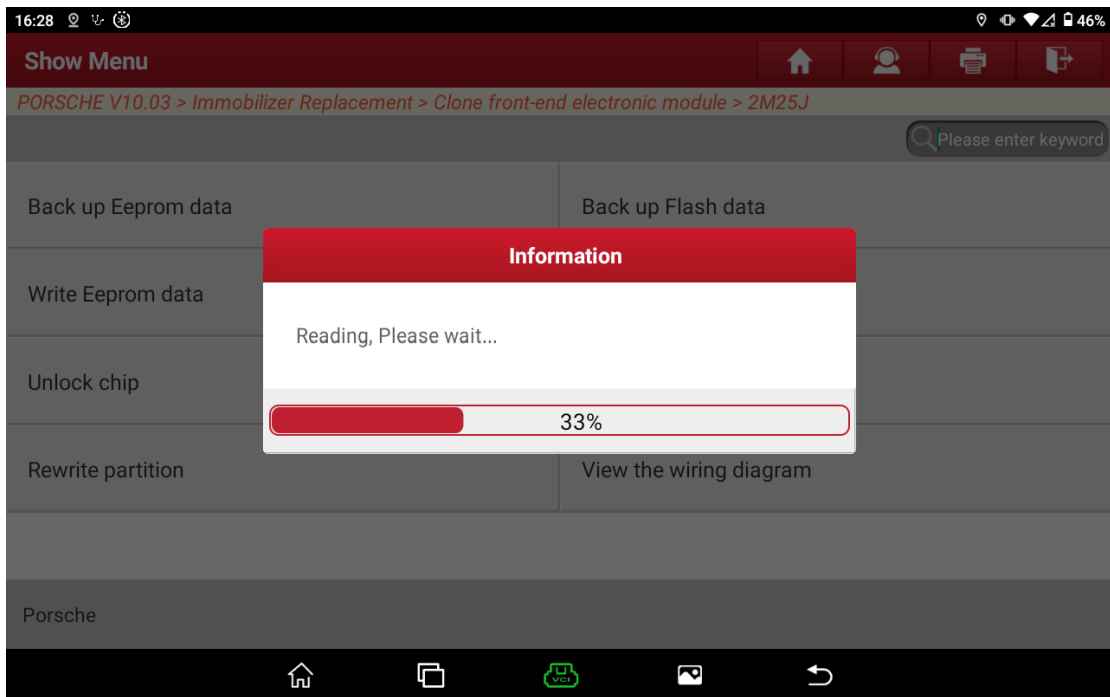

Figure 6
6. Choose [Back up Flash data], as shown in Figure 6.